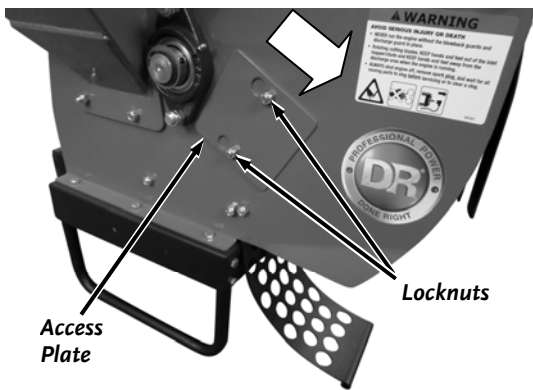

Figure 22
3. Loosen the Locknuts on the Access Plate and slide it to the side and remove (**Figure 22**).